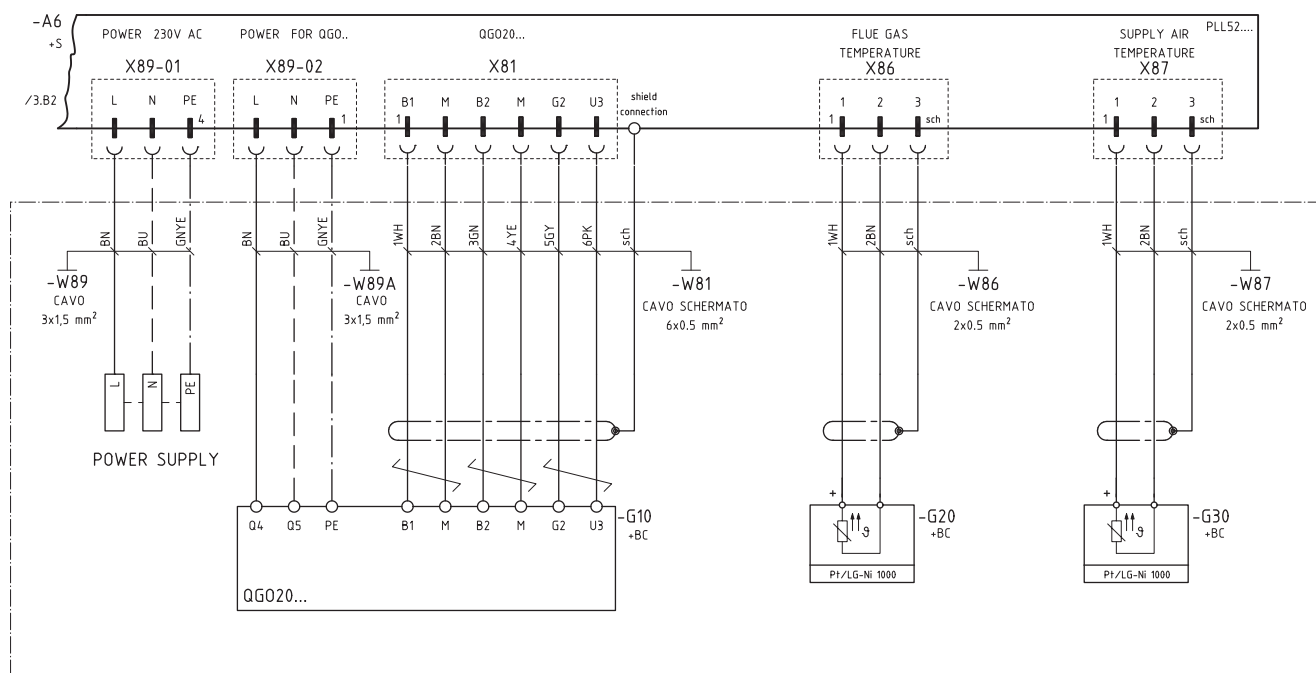

Fig. 8
- Connect the O₂ sensor to the terminal board of the PLL module, using the 2 supplied cables (see Fig. 8):
- 1 FROR H NPI 6P+SCH 0.5 mm² cable for communication with the PLL module (X81 terminal board) (see Fig. 8).
- Use an FROR NPI 2P+T 1 mm² cable to connect the power supply of the PLL module (X89-01 terminal board) to the burner terminal board (see Fig. 8).
- Connect the flue gas and ambient air temperature probes to the terminal board X86 and X87 of the PLL module respectively, using an FROR H NPI 2P+SCH 0.5 mm² cable (see Fig. 8).